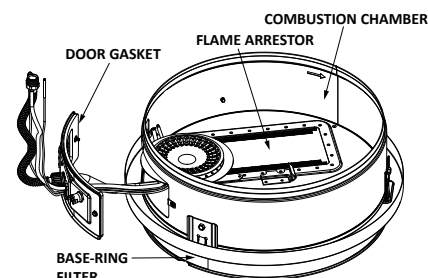

Figure 22.
1. At least annually, check the base-ring filter for any dust or debris that may have accumulated on the filter screen. See Figure 22. NOTE: If the water heater is located in an area that is subjected to lint and dirt, it may be necessary to check the base-ring filter more frequently.
2. Use a vacuum cleaner/shop vac to remove all loose debris in the combustion chamber. See Figure 22. Use compressed air to clear any dust or debris that may have accumulated in the flame-arrestor. (To clean the flame arrestor, you may use a soft plastic brush under water heater. Vacuum lint from brush. Repeat until brush is clean.)
1. Check the door gasket for damage or imbedded debris prior to installation. See Figure 22.
4. Inspect the door gasket and make sure there is no fiberglass insulation between the gasket and the combustion chamber. (Figure 22.)